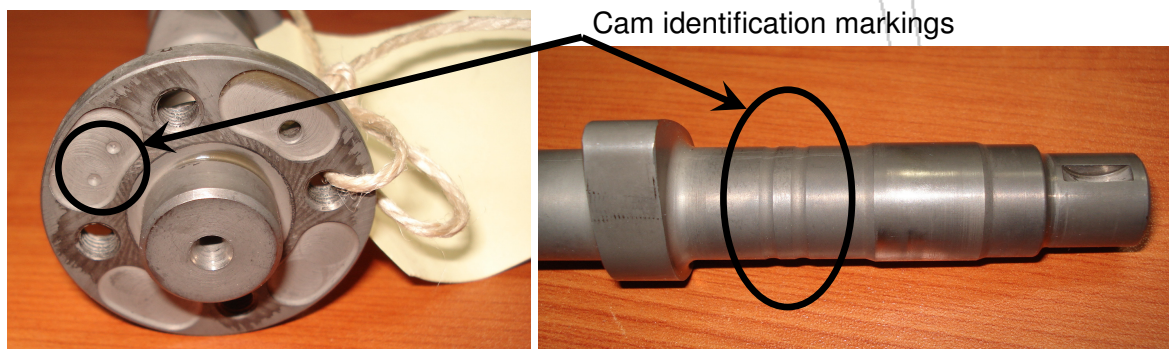

Figure 7. Cam Identification Markings
- Figure 7 shows identification markings on a P/No. 4A432A0D cam – it has two “rings” machined at the oil pump end and two small “spots” machined at the drive gear end. Similarly, P/No. 4A430A0D cams are marked with one “ring”, and one “spot”. Engines assembled with these cam types must use a Jabiru P/No. PE4A001 Hydraulic Lifter. These cams are standard in engines with S/No. 22A-2850 & 22C-001 onwards.